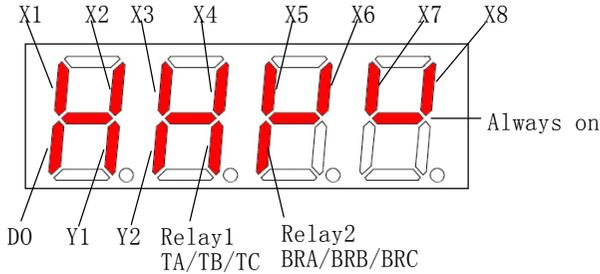

Fig. 5-12-2 Terminal status diagram of 35R5GB/37R5PB~3500G
- ◆ Model of 35R5GB/37R5PB and above models: The terminal information includes status of terminal X1~X8, bi-direction open-collector output terminals D0, Y1 and Y2, and relay output terminal TA and BRA. The status of terminals is indicated by “on” or “off” of the segment. The segment will turn on if the terminal is valid. The segment will turn off if the terminal is invalid. The central four segments are always on for the convenience of observation. As shown in Fig.5-12-2: